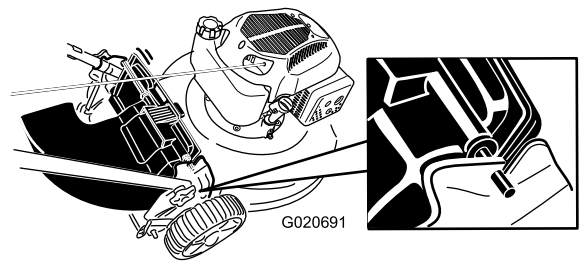

Figure 24
4. Insert the rod on the rear-discharge deflector into the notches on the machine (Figure 24).